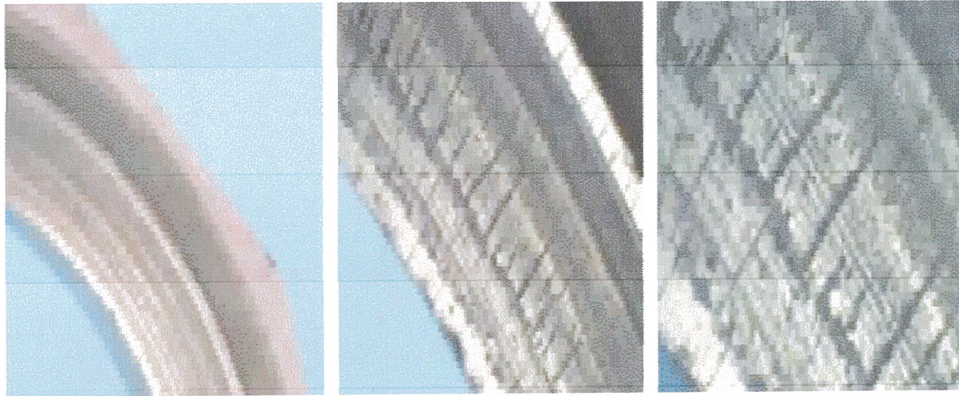

FIGURE Q6 (a)
- Q6** (a) By inspecting the following **FIGURE Q6 (a)**, diagnose the failure of the mechanical seals by proposing the type of failures and the probable causes for the failure. (5 marks)